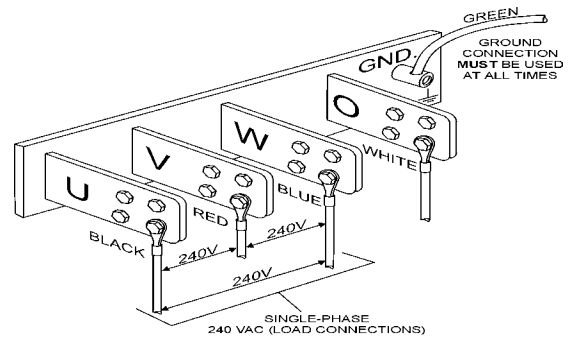

Figure 20. UVWO Terminal Lugs 1Ø240V Connections
2. Connect the load wires to the UVWO terminals as shown in Figure 20.